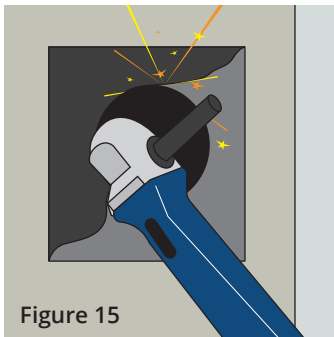

Figure 15
- Existing paint or galvanizing in the welding area has to be removed. (Fig. 15).